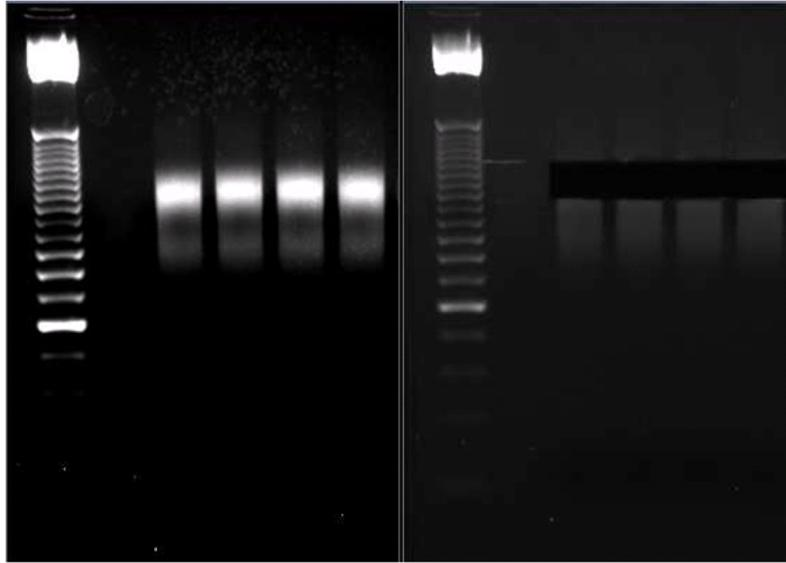

Figure 12 Excision of 275-300 bp library.
7. Excise the entire band that has an average size ranging from 275 to 300 bp using a clean razor blade (see Figure 12 on page 70).